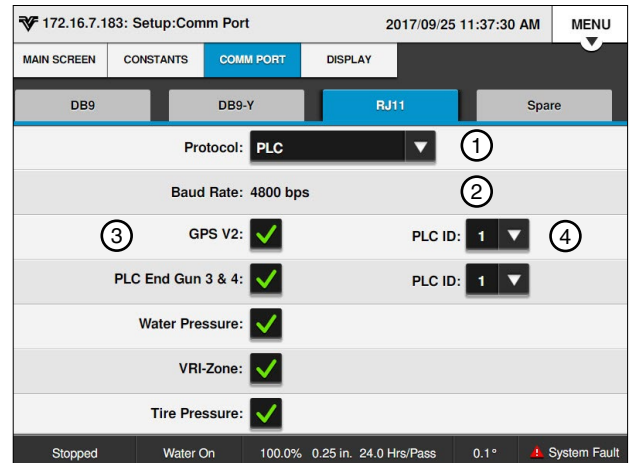

Figure 41-1 PLC Setup Screen
2. Select the **Protocol** drop-down menu. Refer to Figure 41-1.
3. Push the **PLC Setup** button to display the PLC Setup screen. Refer to Figure 41-1.